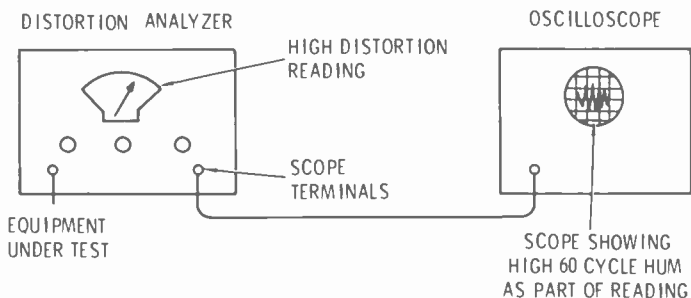

Fig. 11-18. The proper setup of the oscilloscope to the "scope" terminals of the audio distortion analyzer. The scope will show what is present in the reading.
5. The scope can be a very useful instrument when making audio measurements, once you have become efficient in its use. When making noise and distortion measurements, plug the scope into the scope terminals of the distortion analyzer (Fig. 11-18). Most modern analyzers use the null method when checking distortion: the fundamental is nulled out and everything left over is read as distortion. This reading may include harmonic distortion, 60- and 120-cycle hum, tube noise, extraneous noise, etc., but there is no way of determining which.